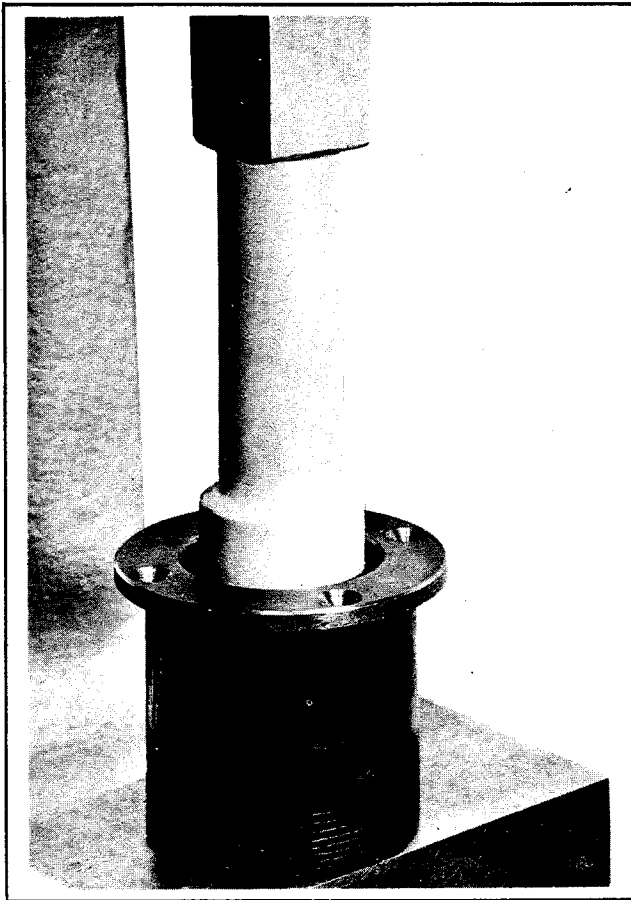

Figure 4D-46. Removing Bearing Cups and Spacer
Temporarily install a 3/8-24 nut on threaded end of shaft (2) and press off reverse pinion bearing collar (8), reverse pinion thrust washer (9) and reverse pinion assembly (10). See Fig. 4D-49.